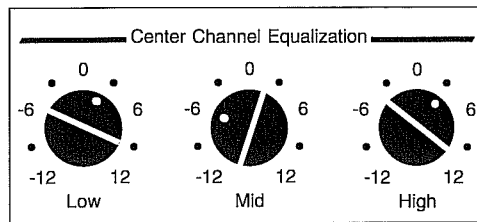

Figure 3
7. Adjust center channel equalization controls. You want the center channel speaker to sound similar to your left and right speakers. The best way to find out what you like is to experiment (and read the section on equalization in the latter part of this manual). Figure 3.